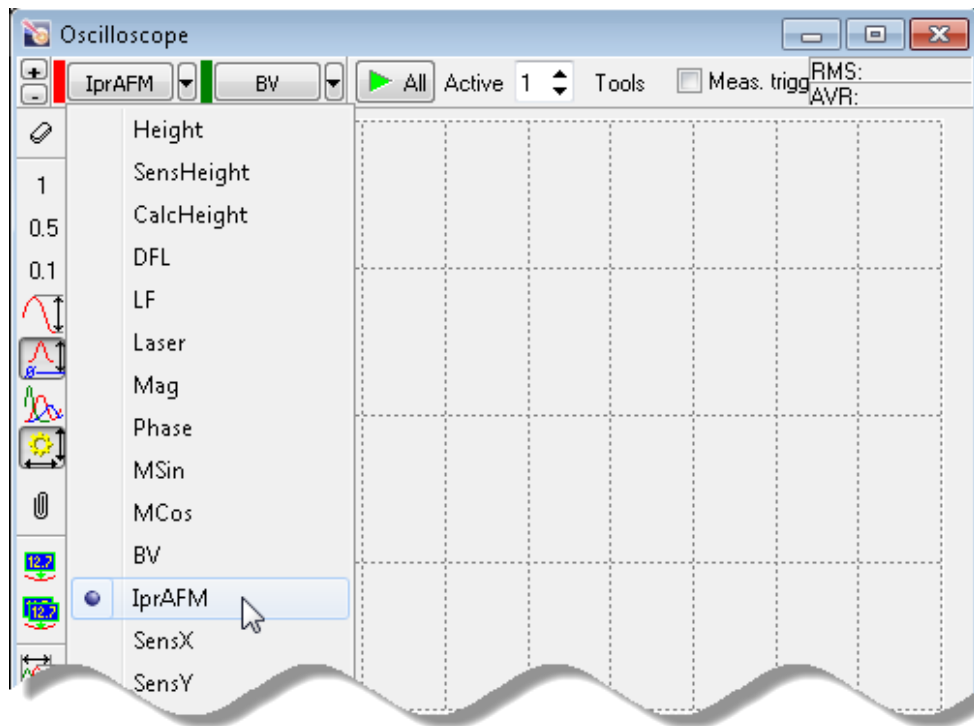

Fig. 7-32. Selecting the **IprAFM** signal in the **Oscilloscope** window
4. In the Oscilloscope window, select displaying of the **lprAFM** signal (see Fig. 7-32).